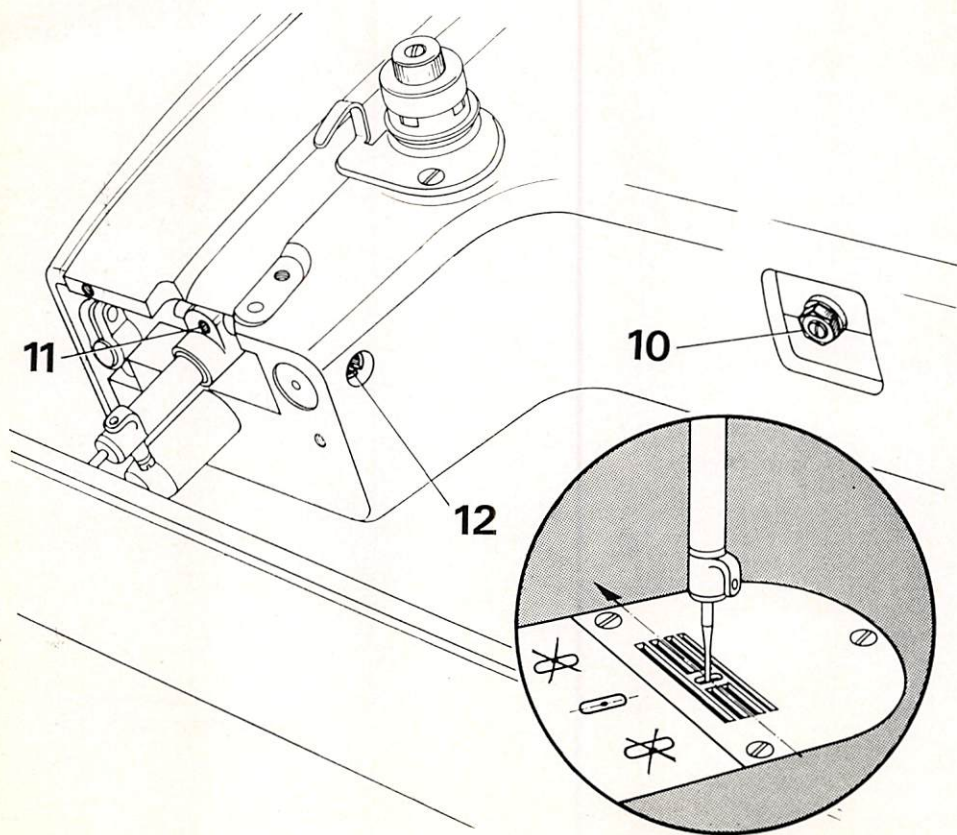

Fig. 4
2. **Centering the Needle in the Needle Hole in Sewing Direction** (Fig. 4)